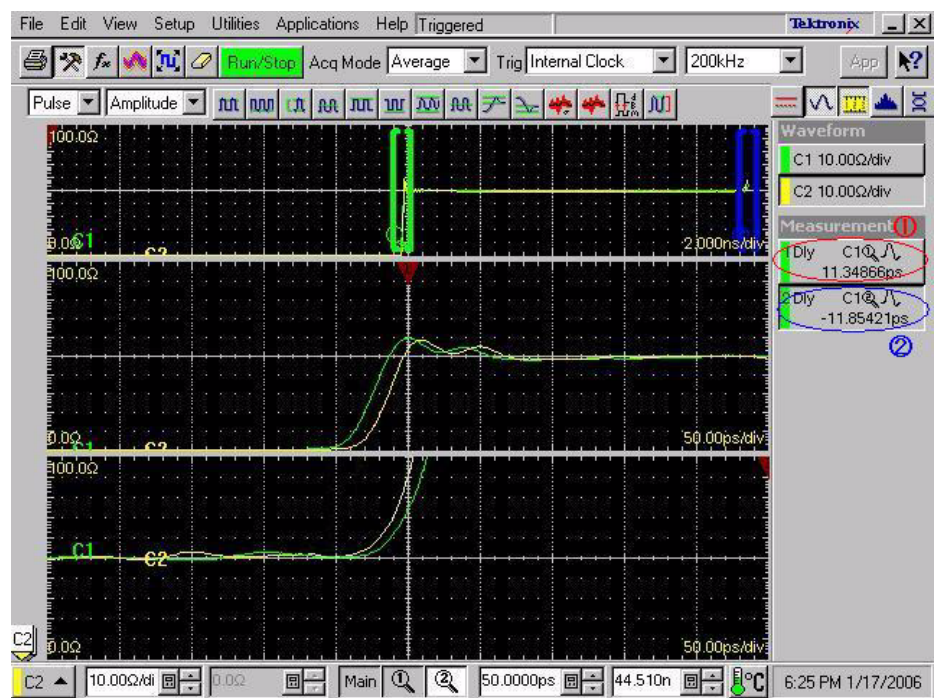
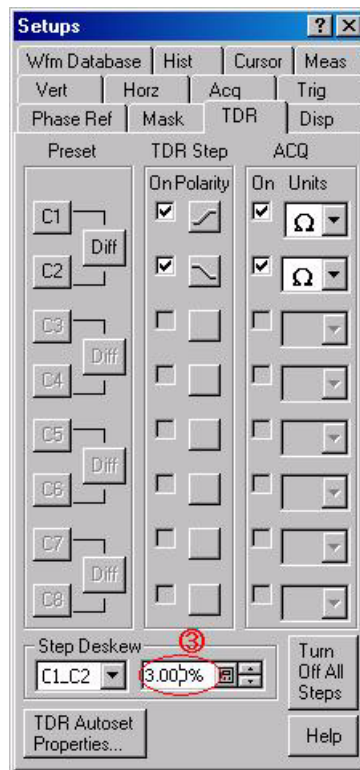
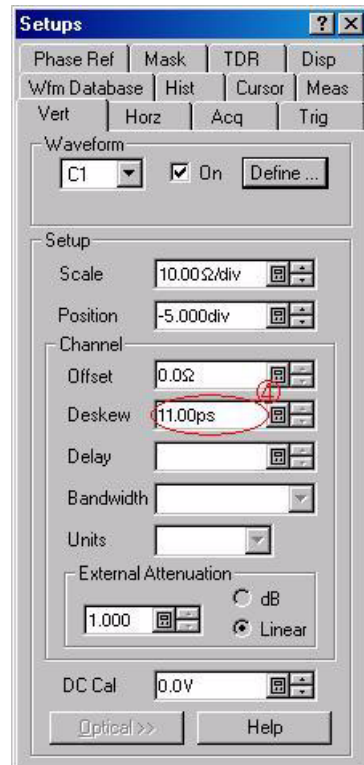

Figure 4: Adjusting the step deskew
Figure 5: Changing the Step Deskew value
Figure 6: Changing the Deskew value
- b. Adjust the readings of ① and ② in Figure 4 are about the same value by changing the **Step Deskew** value (see ③ Figure 5 on page 6).
- b. Adjust the deskew so that the reading of ② in Figure 4 on page 5 has the minimum value by changing the **Deskew** value (see ④ in Figure 6).